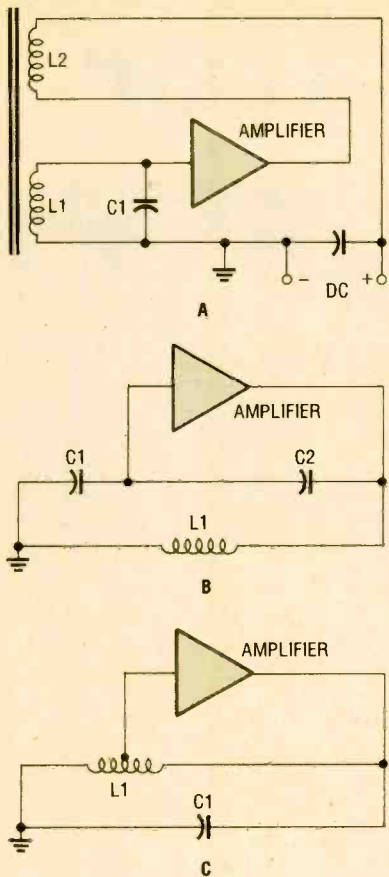

Fig. 1. These are the three main forms of RF feedback oscillators: Armstrong (A), Colpitts (B), and Hartley (C).
Feedback oscillators can be classified according to the nature of their feedback network. Among RF oscillators, there are three basic types (and many variations on them): Armstrong, Colpitts or Clapp, and Hartley. There are other forms of feedback networks used at audio frequencies, but let's stick to RF oscillators. You can distinguish the different types by looking at their feedback networks (see Fig. 1).
The resonating portion of the oscillator may be either an inductor/capacitor (LC) tuned circuit, as shown in Fig. 1, or a piezoelectric-crystal resonator. The latter are more stable than LC tuned circuits.